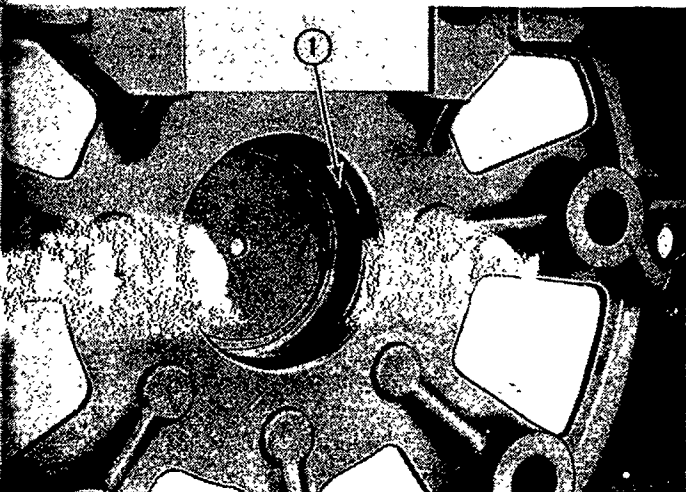

Figure 41
4. Install a new rear bearing retainer (O-ring) in the bore recess. See Figure 41.